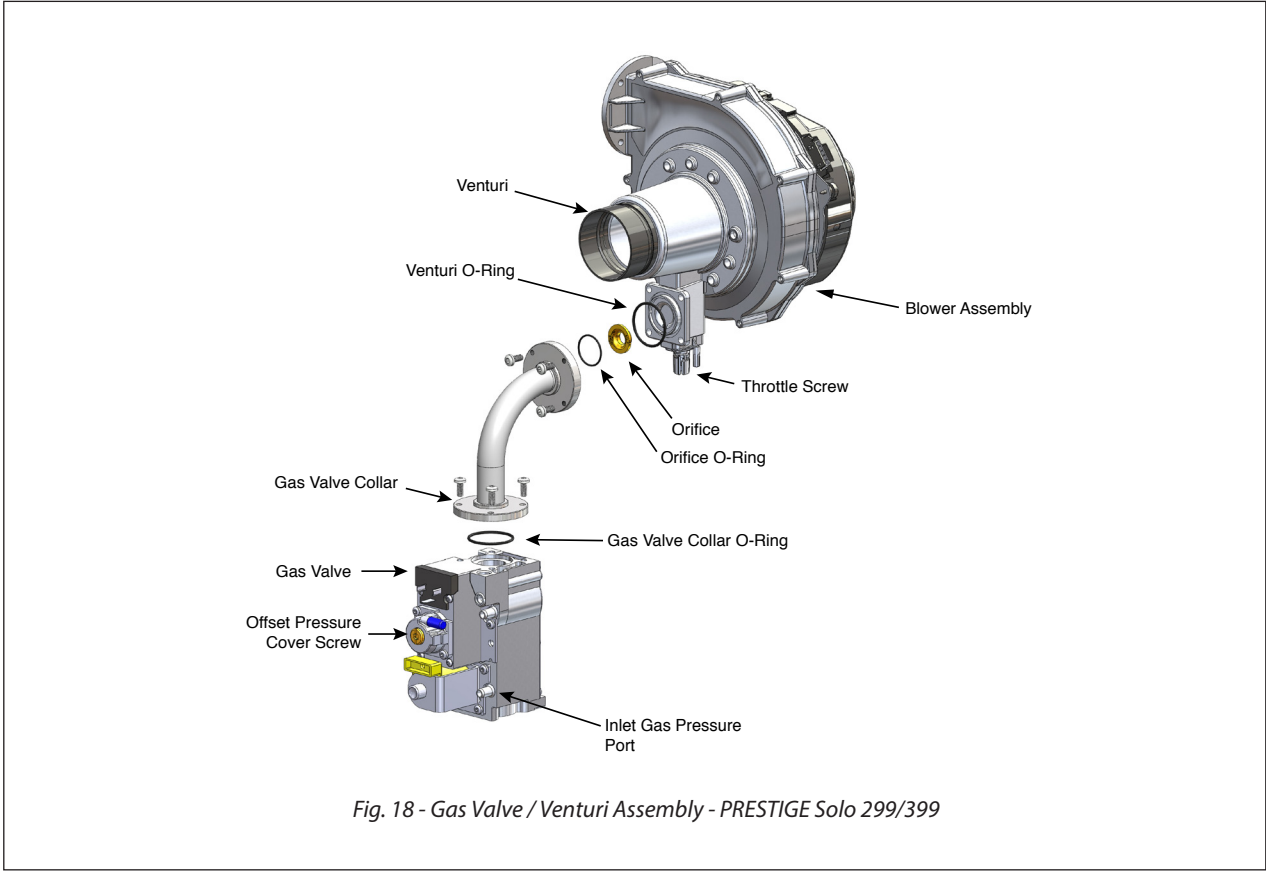

Fig. 18 - Gas Valve / Venturi Assembly - PRESTIGE Solo 299/399
- Prior to start up, ensure the unit is set to fire propane. Check the rating label for the type of fuel. Check the gas valve for propane conversion label. If there is a conflict or doubt on the burner set up, remove the gas valve and check for the propane orifice, see Fig. 16 or Fig. 17 on page 30 or Fig. 18 on page 31.